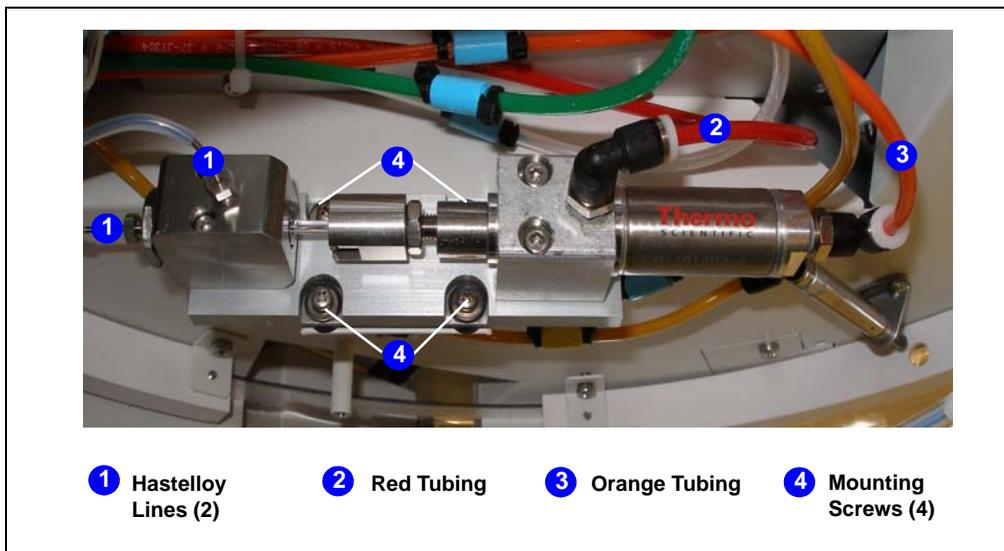

Figure 5-21. Removing the Static Valve
7. The static valve is located above the drip tray. Using a 1/4-inch open-end wrench (P/N 014605), disconnect the two Hastelloy lines from the valve (see Figure 5-21, ①).